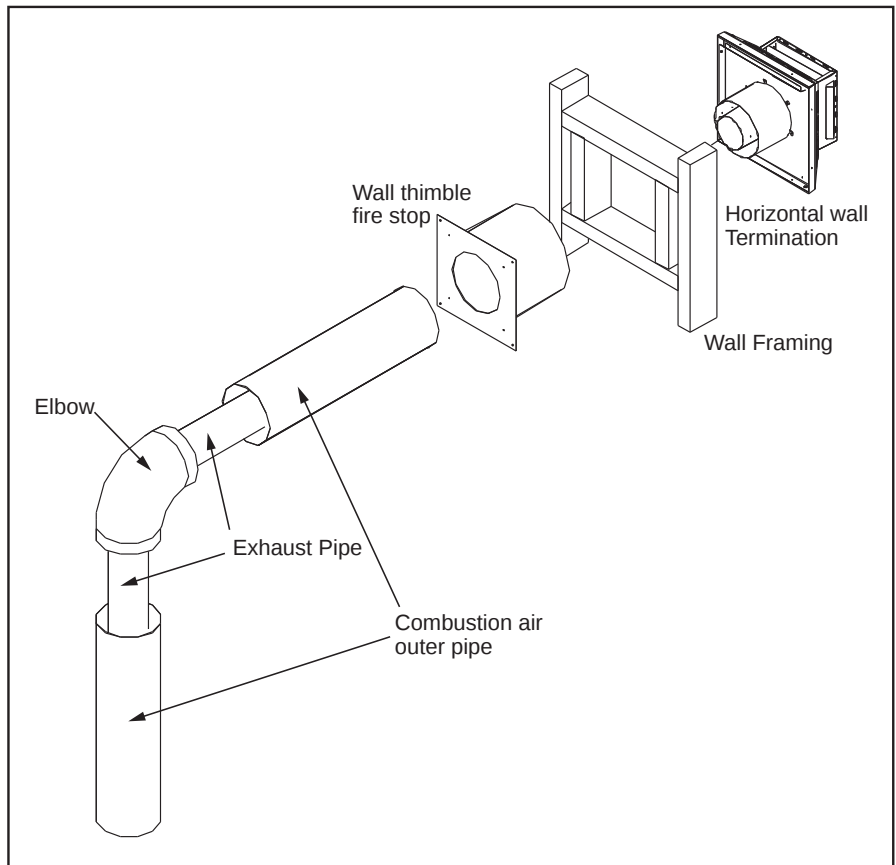

Figure 57: Horizontal Vent Termination
- Step 3.** With the pipe in the correct position and attached to the fireplace, mark the wall for a 10 inches (25.4 cm) x 10 inches (25.4 cm) square hole (see Figure 57). The center of the hole should match the center line of the horizontal pipe. Cut and frame the hole in the exterior wall where the vent will be terminated. If the wall being penetrated is made of a non-combustible material (i.e. masonry or concrete) a 7 inches (17.8 cm) hole is acceptable.